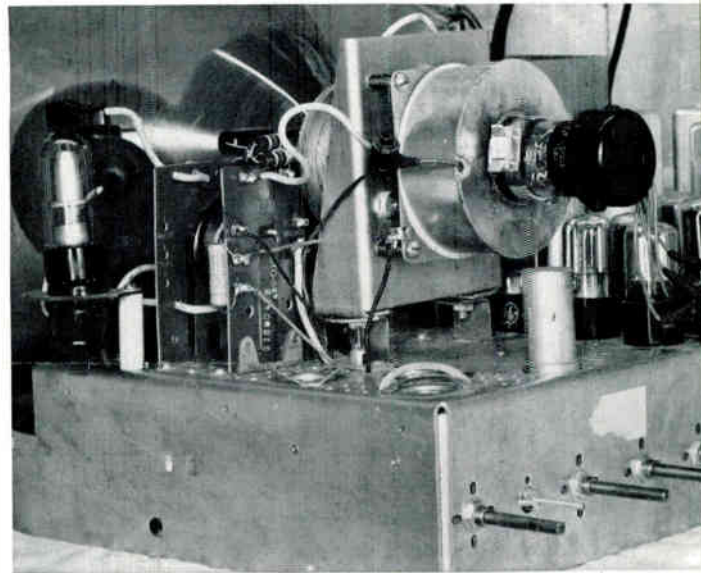

Fig. 4. Chassis of General Electric Model 802 shown after all the electrical and mechanical changes have been made.
4. This assembly should be handled carefully to prevent any change in the position of the coils or core material. This transfer made it possible to use the original focus coil and mounting bracket as seen in Fig. 4.
yoke assembly and also to move it closer to the edge of the chassis. These were mounted to the chassis in new holes one inch in back of the original mounting holes. The mounted assembly can be seen in Fig. 4.